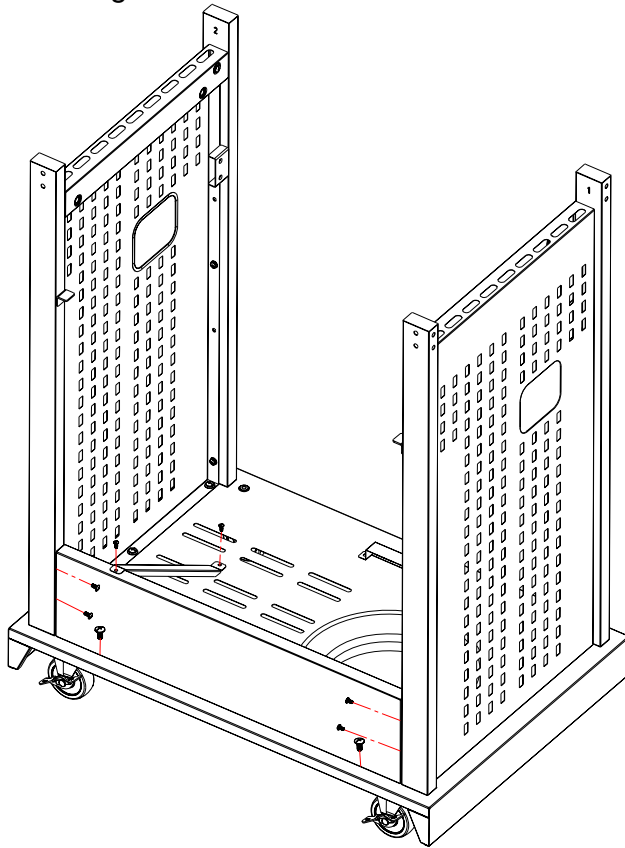

Fig.5a
1. Attach back panel to the bottom shelf with two (2) M6 x 13 screws as shown in Fig.5a.
2. Attach back panel to the left- and right-side panels with four (4) M5 x 10 screws as shown in Fig.5a.
3. Attach tank baffle bar to the back panel and bottom shelf with two (2) M4 x 10 screws as shown in Fig.5a.